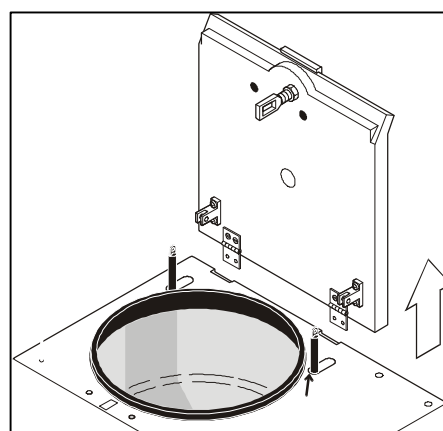

Figure 10
- Unscrew 4 Phillips screws (114), pull out securing screw driver and remove the lid (Figure 10).